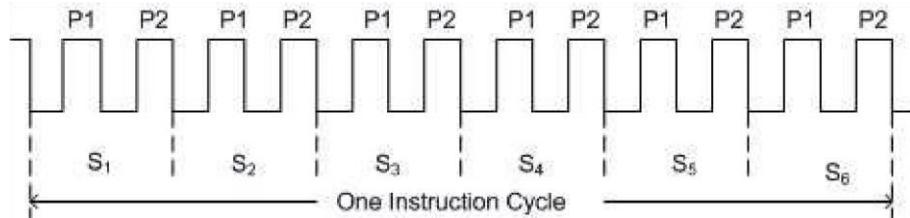

Fig 1.9 Clock Cycle Of 8051
The 8051 serial port is full duplex. In other words, it can transmit and receive data at the same time. Shown in the Fig 1.9 Diagram of Serial port.
In 8051, the crystal oscillator generates clock cycles. Depending upon the frequency of crystal the clock cycle time varies. The diagram shows 12 clock cycles. Machine cycle consists of twelve (12) clock cycles. Combination of one on- time and one off- time pulse is referred as cycle. One instruction cycle consists of one or more machine cycles .The instruction cycle is also called as Machine cycle. Shown in the Fig 1.9 Clock Cycle Of 8051.